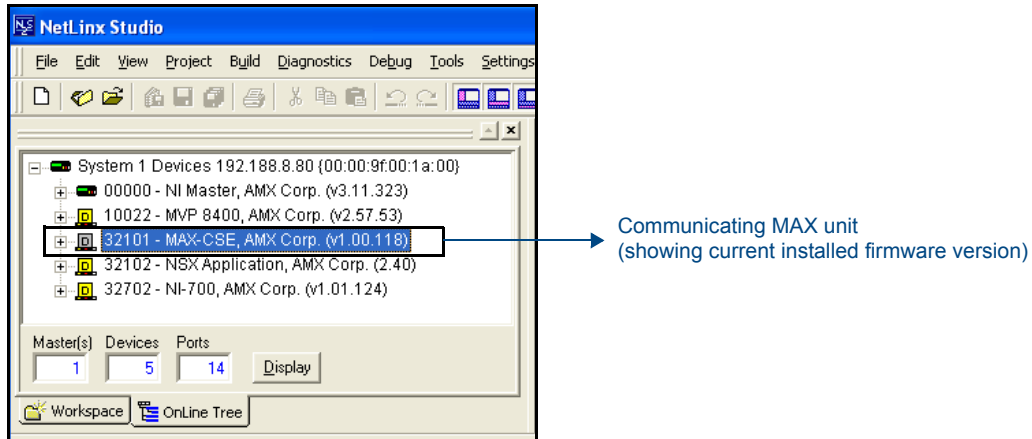

FIG. 38 Studio Online Tree tab showing the communicating MAX unit
1. After Studio has established a connection to the target Master, click on the **OnLine Tree** tab in the Workspace window to view the devices on the System. *The default System value is one (1).*
3. After the Communication Verification dialog window indicates active communication between the PC and the Master, verify the target MAX unit appears within the **OnLine Tree** tab of the Workspace window (FIG. 38).
3. After Studio has established a connection to the target Master, click the **OnLine Tree** tab of the Workspace window to view the devices on the System. *The default System value is one (1).*
5. After the Communication Verification dialog window verifies active communication between the PC and the target Master, verify the MAX unit appears in the **OnLine Tree** tab (FIG. 38) of the Workspace window.